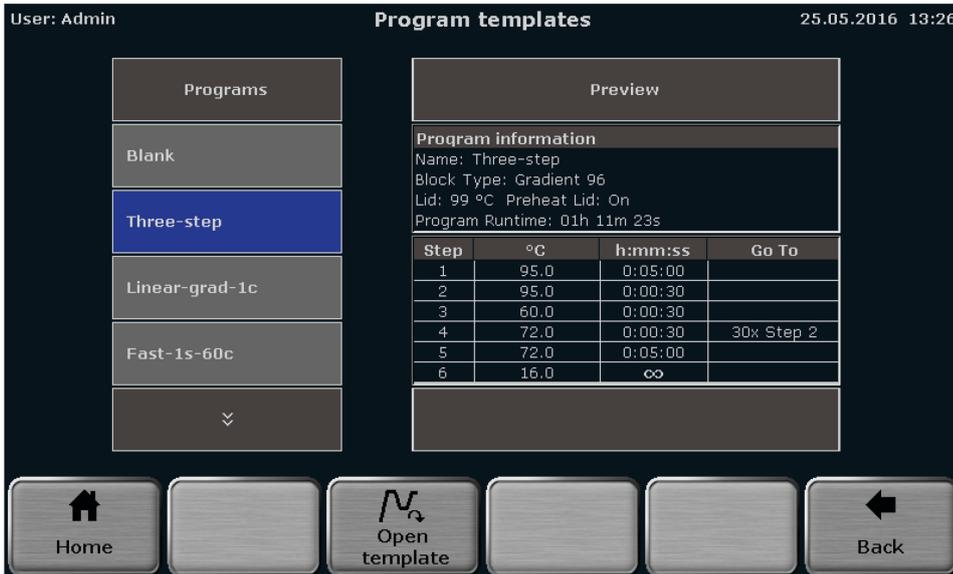

Figure 19. QIAmplifier 96 program template screen.
4. The program template screen opens (see Figure 19). Search for a program template using the cursor keys and press the corresponding button to select it.
The program structure can be controlled in the program preview (see Figure 19). If a template is selected, the program steps and some additional information are displayed in spreadsheet form. By using the program preview function, templates can be checked before they are opened.